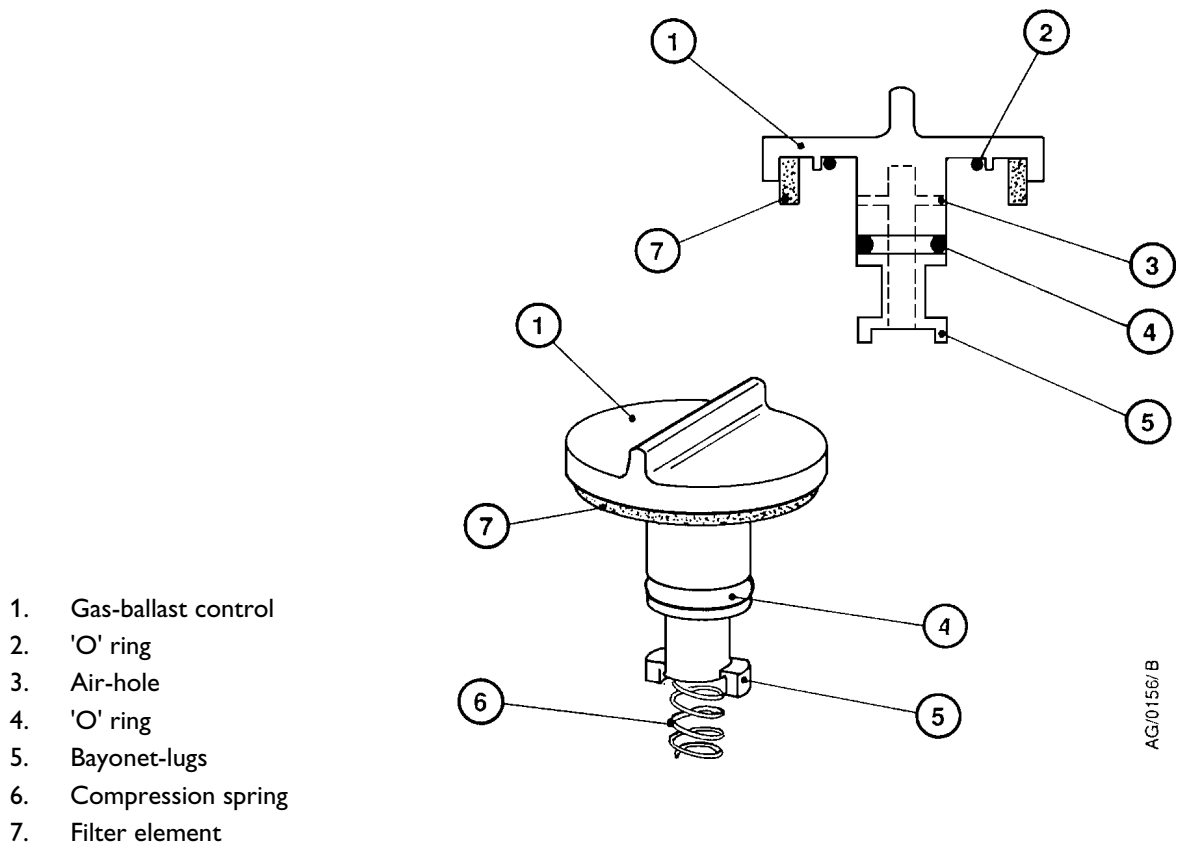

Figure 8 - Gas-ballast control assembly
1. Refer to Figure 8. Disconnect your vacuum system from the pump inlet-port (3) and remove the centring-ring and filter assembly (1) and the 'O' ring (2). Inspect the centring-ring and the 'O' ring. If they are clean, continue at Step 5. If they are not clean, continue at Step 2.
2. Remove the 'O' ring (2) from the centring-ring and filter assembly (1). Do not allow the 'O' ring to come into contact with the cleaning solution.
*Note: The gas-ballast filter element (Figure 8, item 7) is retained in its seating with adhesive; do not try to remove it.*
1. Refer to Figure 8. Turn the gas-ballast control (1) to the high flow position (position 'II').
2. Push the control down against the compression spring (6) as far as it will go, then turn the control anticlockwise slightly to release the bayonet-lugs (5) and remove the control.
3. If necessary, wipe the control with a clean, dry, lint-free cloth and check that the air-hole (3) is not blocked.